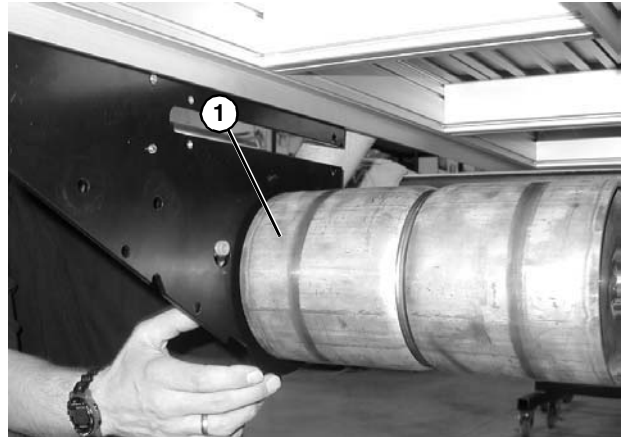

Figure 84
11. Slide drive pulley (**Figure 84, item 1**) out of attached side plate.